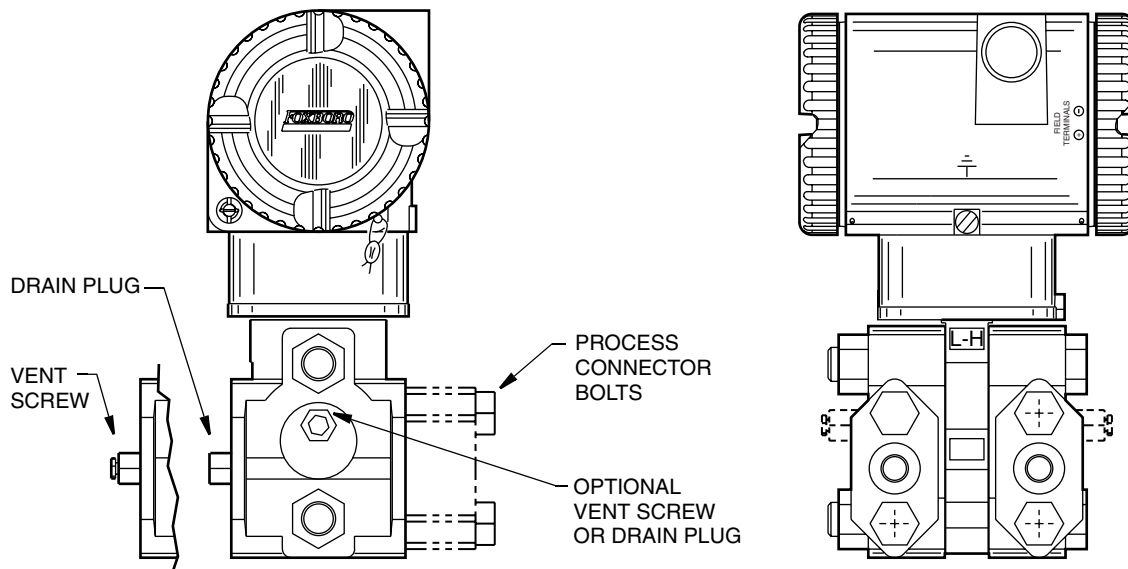

Figure 2. Pressure Connections
- When installing your transmitter, tighten process connector bolts to a torque of 61 N•m (45 ft•lb) and drain plugs and optional vent screws to 20 N•m (15 ft•lb). See Figure 2.